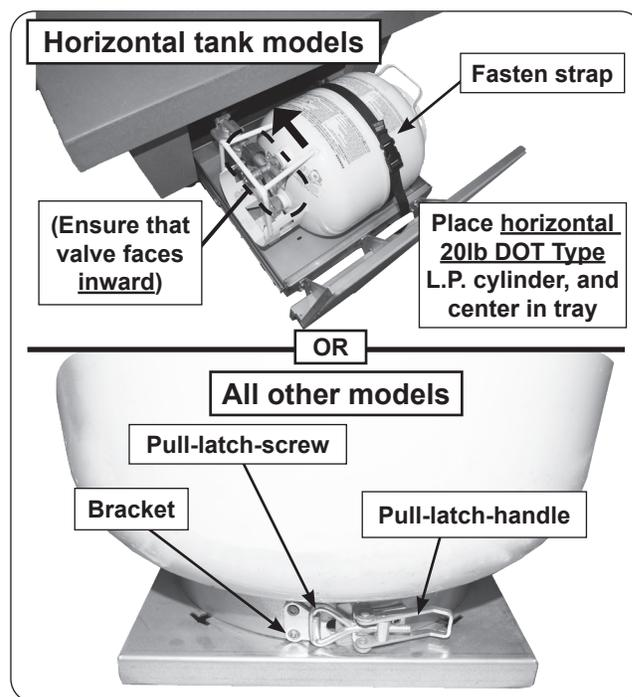
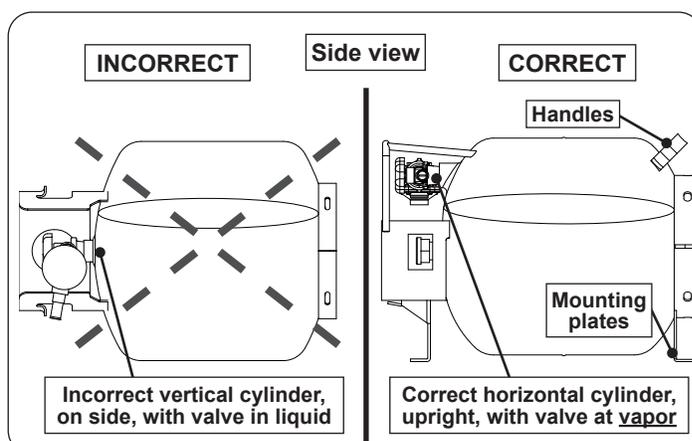

Fig. 38-2 L.P. Cylinder placement
Fig. 38-3 Horizontal L.P. Cylinder detail (if applicable)
3. The propane cylinder (not included) is to be located inside the base of the unit, via the storage door/drawer opening. Insert the cylinder into the tank holder tray and secure it. See Fig. 38-2, Fig. 38-3 (if applicable), and the details below:
- Ensure it is in the correct upright position, centered on the tray, and with the valve facing inward. See Fig. 38-2, 38-3 and follow the warning labels on the tank for proper placement.